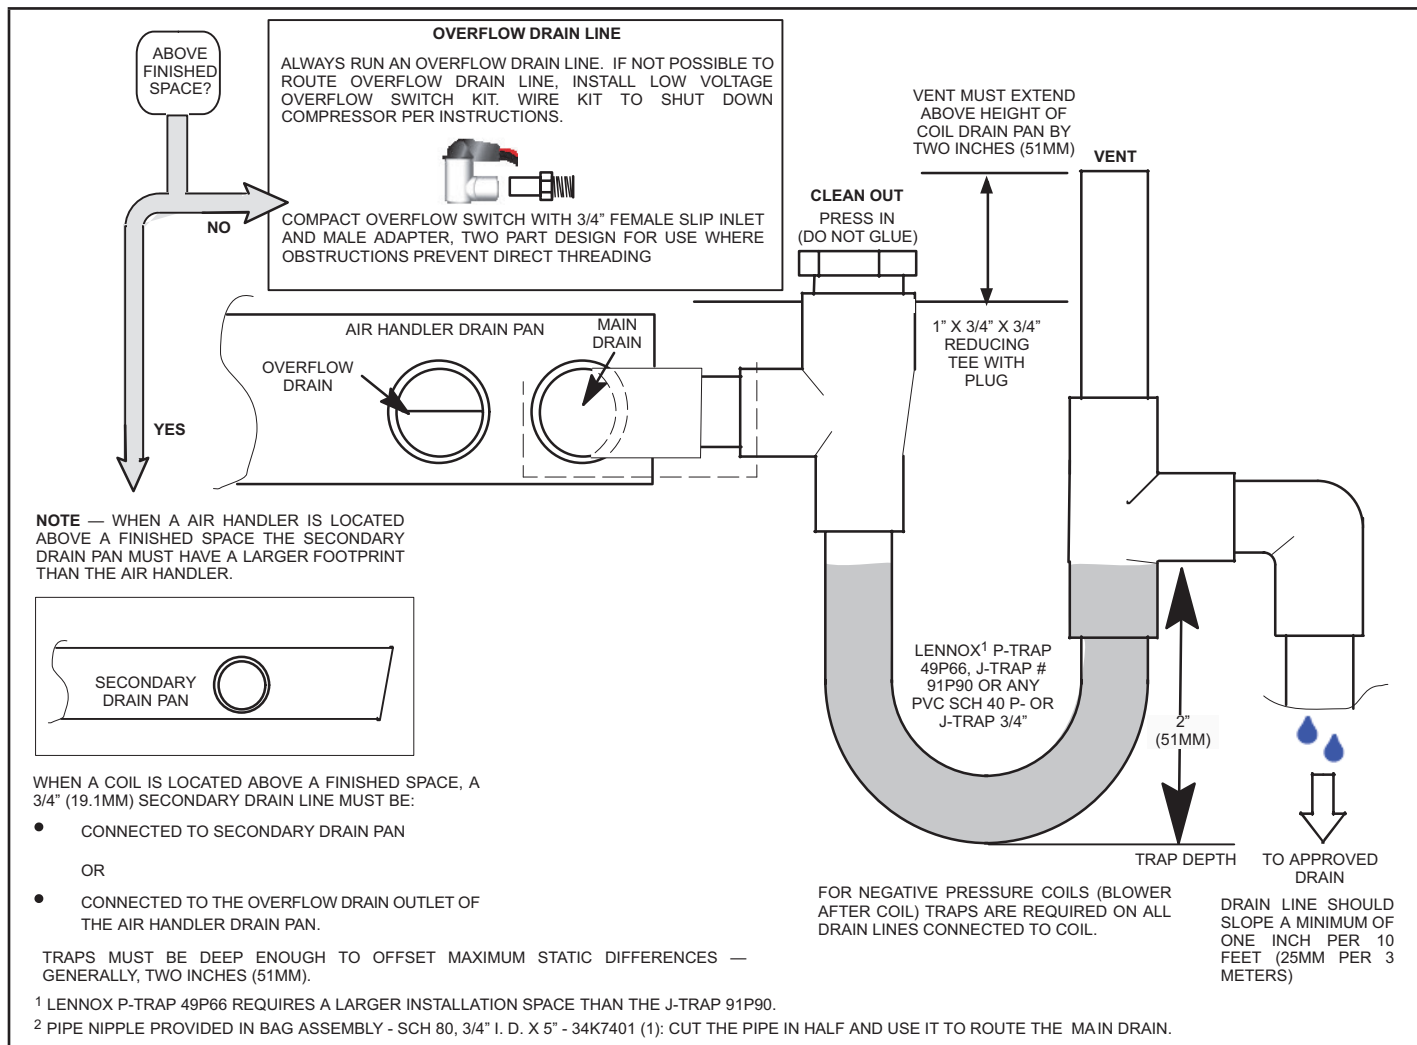

FIGURE 10. Typical Main and Overflow Drain
- 6 - Install a 2" trap in the main (primary) drain lines as close to the unit as practical (see FIGURE 10). Make sure the top of the trap is below the connection to the drain pan to allow complete drainage of the pan.